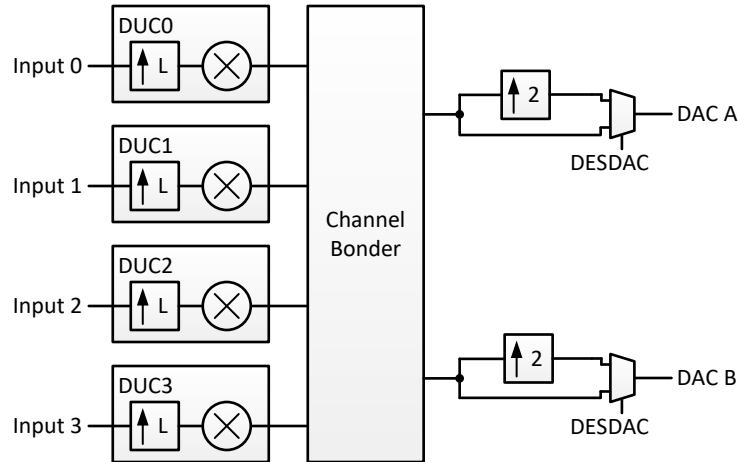

Figure 7-13. DUC Block with real output
The digital signal processing blocks are shown in Figure 7-13. The device includes four digital up-converter (DUC) blocks supporting four complex (IQ) input streams that can be combined at different RF frequencies. The four DUCs can be flexibly assigned and summed together for either DAC output in the channel bond. The final signal processing block is a extra interpolate by 2 filter for use with DES2XL/H mode.